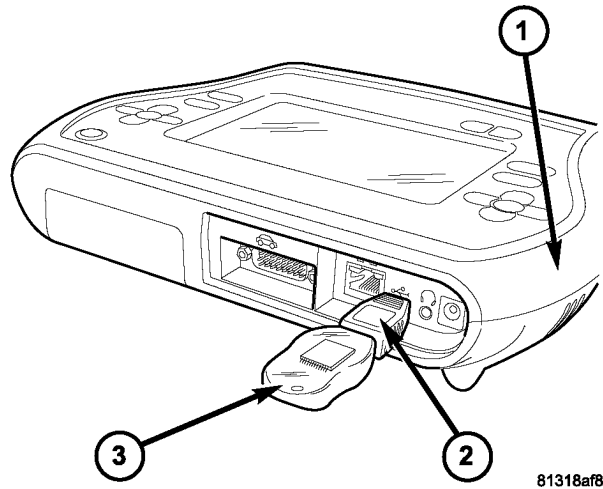

Fig. 2 USB KEY, GENDER CHANGER, AND StarSCAN®; TOOL
8. With the StarSCAN® powered OFF, connect the USB Key and Gender Changer to the StarSCAN® USB port, (Fig. 2).